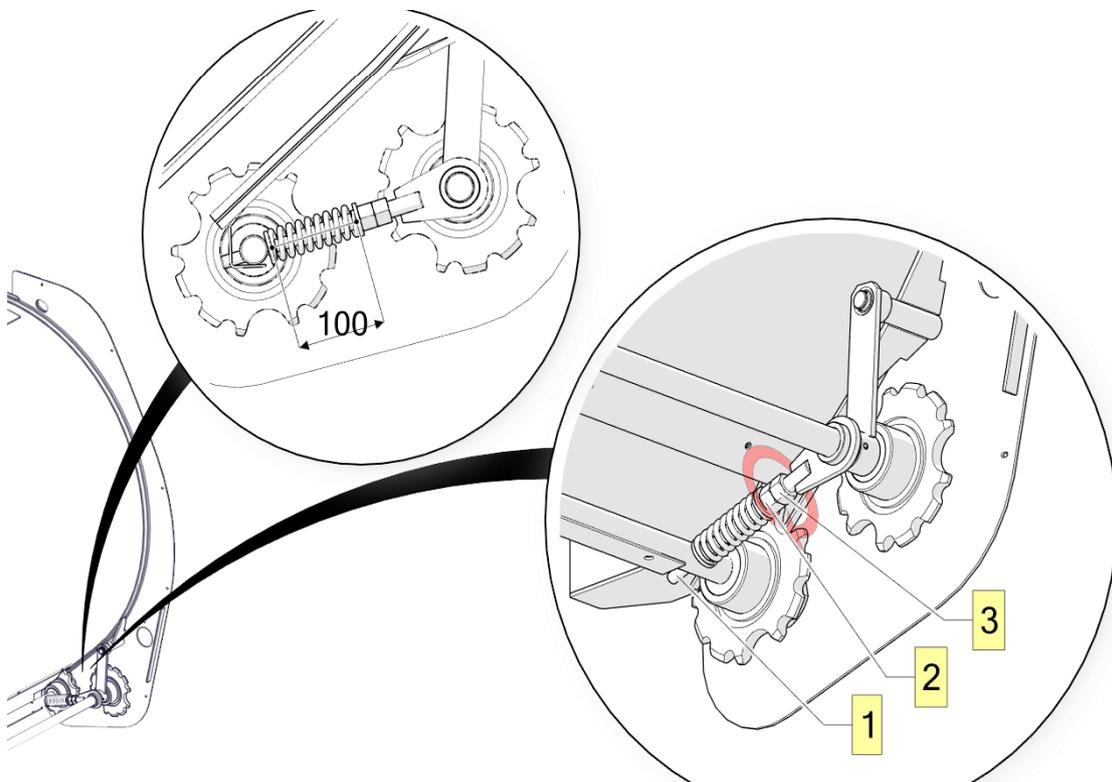

Figure 19. Adjusting the tension of the chain and rod conveyor set
Adjust the tension of the chain and rod conveyor set by loosening the jam nut (3) and then tightening or loosening the nut (2). After you obtain the required tension, re-tighten the jam nut (3). The spring length should be 100 mm, as shown in Fig. 19; Repeat the procedure in a likewise manner on the other side, so that the spring length is equal on both left- and right-hand side.